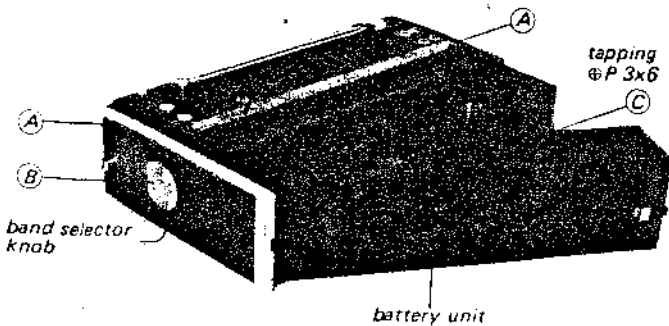

Fig 2-1
1. Remove the two retaining screws marked (A) in Fig. 2-1.
2. Remove the ornamental screw marked (B) in Fig. 2-1 and pull out the band-selector knob.
4. Remove the three tapping screws (Ø P 3x6) marked (C) in Fig. 2-1.
5. Remove the cabinet in the direction shown by the arrow in Fig. 2-1.